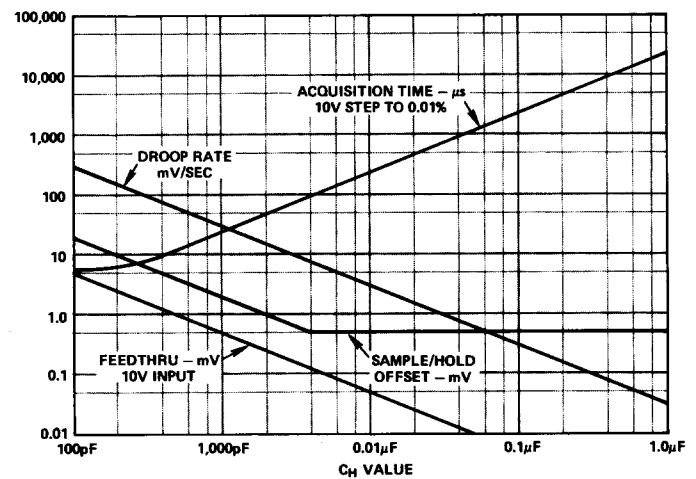

Figure 6. Sample-and-Hold Performance as a Function of Hold Capacitance
The hold capacitor,  $C_H$ , should be a high quality polystyrene (for temperatures below  $+85^\circ\text{C}$ ) or Teflon type with low dielectric absorption. For high speed, limited accuracy applications, capacitors as small as 100pF may be used. Larger values are required for accuracies of 12 bits and above in order to minimize feedthrough, sample to hold offset and droop errors (see Figure 6). Care should be taken in the circuit layout to minimize coupling between the hold capacitor and the digital or signal inputs.
(See also Figure 6.)
**Sample-to-Hold Offset** is that component of D.C. offset independent of  $C_H$  (see Figure 6). This offset may be nulled using a null pot, however, the offset will then appear during the sampling mode.